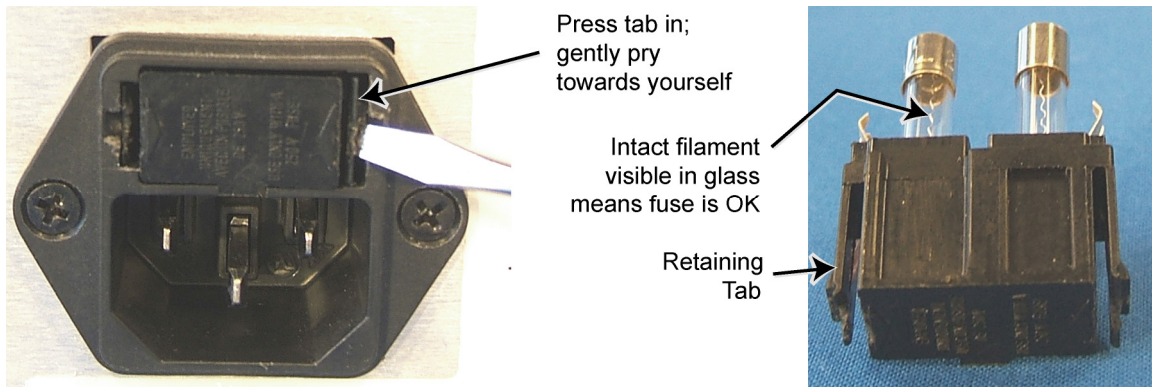

Figure 14
2. There are two retaining tabs, one on each side, that hold the fuse drawer in place. Using a small screw driver, press one retaining tab in and gently pry that side out a small amount (see Figure 14). Repeat the process on the other side of the fuse drawer. Continue back and forth in this fashion until the fuse drawer is out far enough to pull with your fingers.